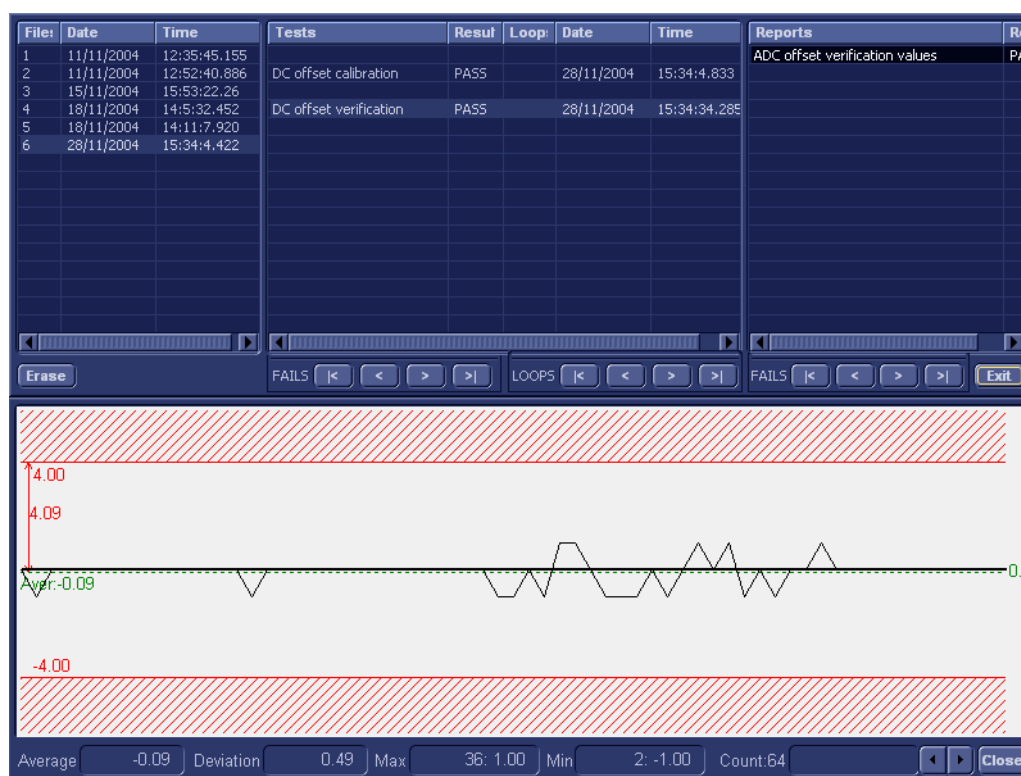

Figure 7-10 View Test Log - DC Offset Verification Test
- the View Test Log window opens automatically, listing all tests performed and showing details of which tests passed or failed, as shown in the example in Figure 7-10.
- 9.) Use the scroll arrows at the bottom of the Reports window (see Figure 7-10) to scroll through the channels and view the corresponding results.